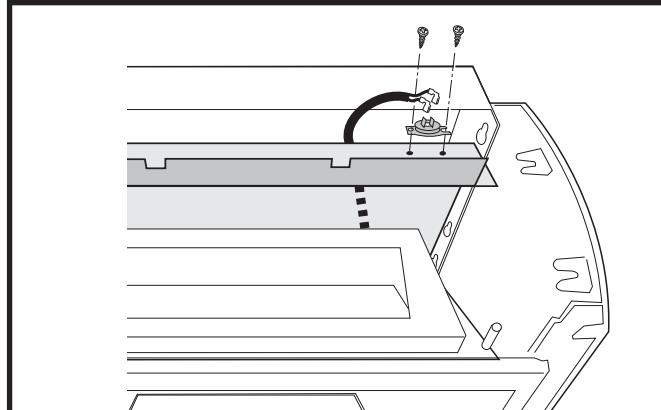

Fig. 7 Attach snapstat to inner shroud.
- Feed the snapstat wire lead up between the inner and outer rear shroud panels and secure the snapstat to the upper right side of the inner shroud. (Fig. 7)